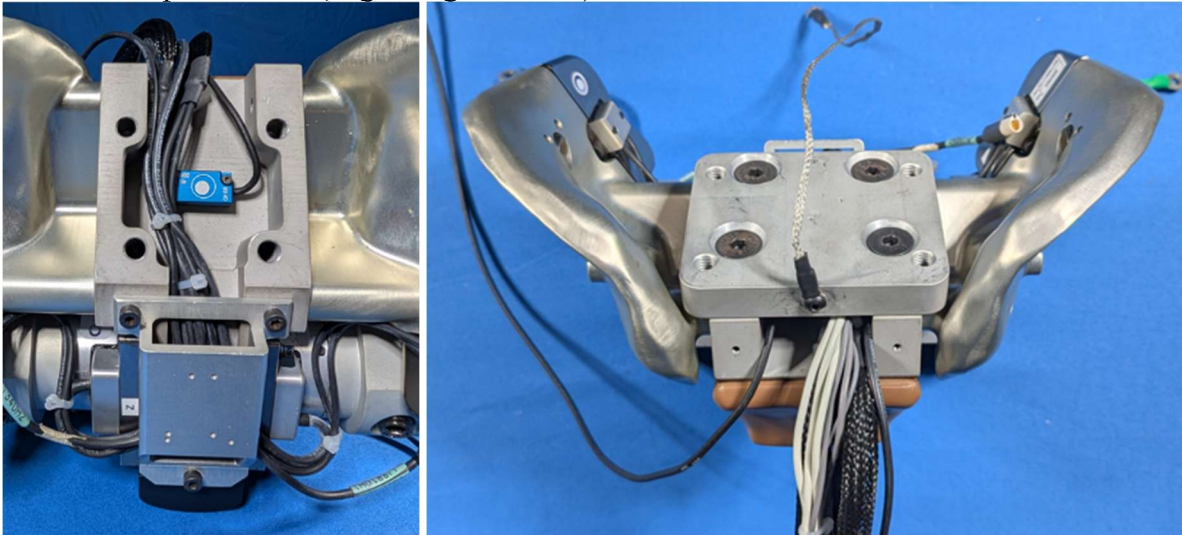

Figure 13-27. Pelvis tilt sensor installed with instrumentation bundle routed to the right side of the sensor
13.4.3.5 After installing the pelvis tilt sensor on the pelvic bone, route the existing instrumentation bundle to right side of the sensor (Left, Figure 13-27). Also route the wires from the upper-torso-to-pelvis adapter plate to the right-side exit of the pelvic bone (Right, Figure 13-27).